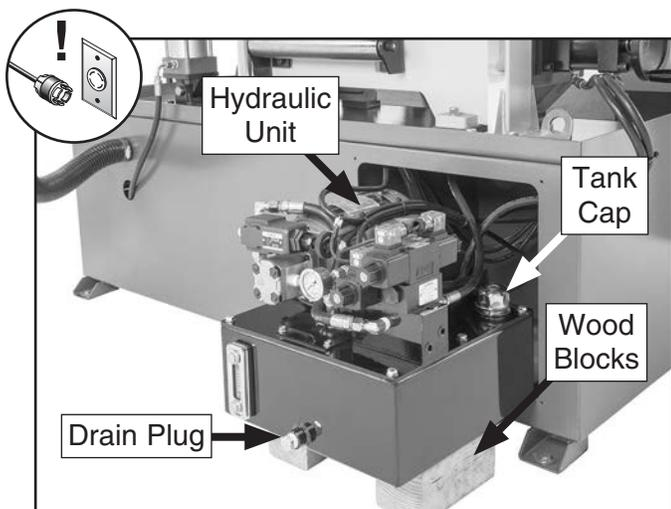

Figure 70. Hydraulic unit removed from base.
4. Slide hydraulic unit out of machine base and support weight of hydraulic unit with wood blocks (see **Figure 70**).
5. Remove tank cap (see **Figure 70**), then remove drain plug and allow tank to empty into drain pan.